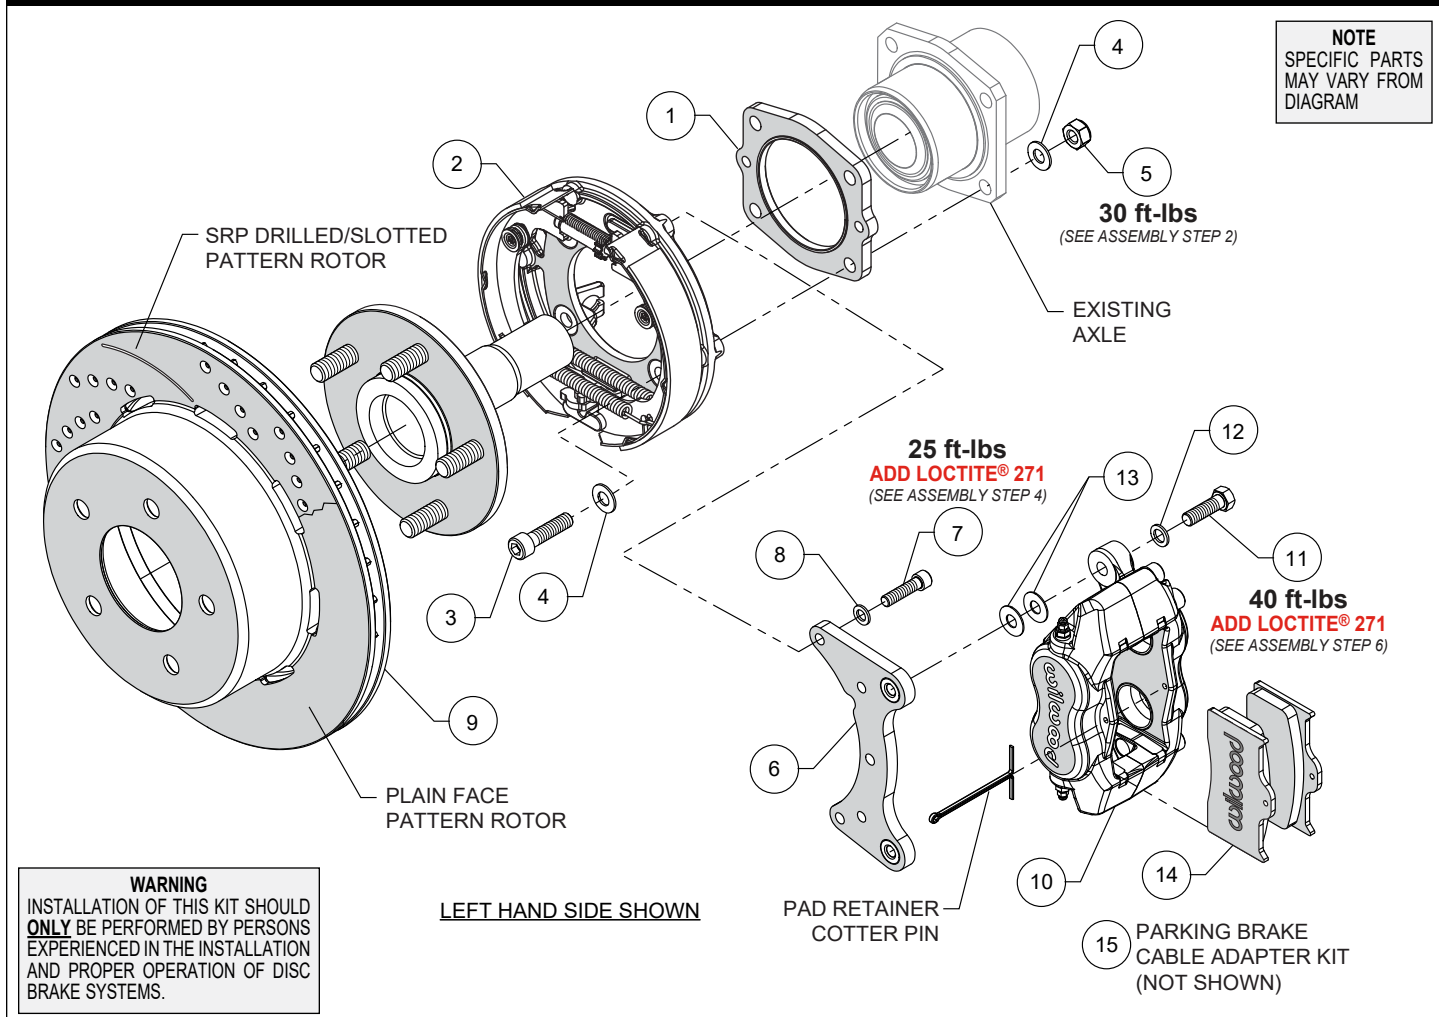
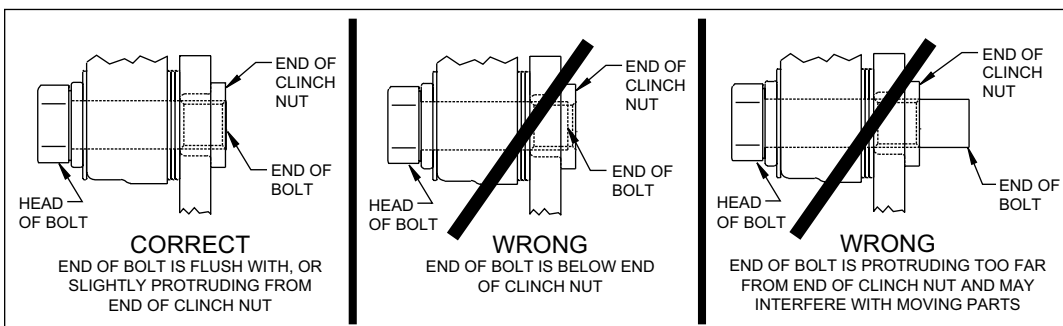

Figure 1. Typical Installation Configuration
Figure 4. Clinch Nut Engagement Diagram
NOTE: Numbers in parenthesis refer to the parts list and Figure 1 on the preceding pages.
CAUTION: All mounting bolts must fully engage clinch nuts. Be sure to check that all bolts are either flush or protruding through flanged side of clinch nut after shimming, Figure 4.
STEP 1 Slide the parking brake assembly spacer (1) onto the axle housing as shown in Photo 1 and Figure 1. **NOTE:** Ensure the spacer fits flush against the axle flange.
STEP 2 Orient the parking brake assembly (2), as shown in Figure 1. **NOTE:** The brake shoe adjuster star wheel should be at the top of the assembly when mounted (see arrow, Photo 2). Mount assembly (2) to axle housing flange using bolts (3), washers (4), and locking nuts (5), Photo 2 and Figure 1. Ensure that the backing plate of the parking brake assembly (2) fits flush against the spacer (1). Torque lock nuts (5) to value shown in Figure 1.
STEP 4 Install the caliper mounting bracket (6) to the parking brake assembly (2) using bolts (7) and washers (8) as shown in Figure 1 and Photos 3 and 4. **NOTE:** Be sure the heads of the caliper bracket clinch nuts (6) are facing outward toward the wheel. Apply red *Loctite*® 271 to the bolt threads (7) and torque to value shown in Figure 1.
STEP 5 Slide the rotor (9) onto the axle flange. **NOTE:** The rotor/hat must fit flush against the axle flange or excessive rotor run out may result. Install three lug nuts (finger tight) to keep the rotor/hat assembly in place while continuing with the installation, Photo 5.
STEP 6 NOTE: Please reference the caution statement at the beginning of the assembly instructions. Mount the caliper (10) onto the caliper mounting bracket (6) using bolts (11) and washers (12), as shown in Figure 1. Initially place two .035" thick shims (13) on each bolt between the caliper and the bracket, Photo 6. Temporarily tighten the mounting bolts and view the rotor (9) through the top opening of the caliper. The rotor should be centered in the caliper, Photo 7. If not, adjust by adding or subtracting shims between the bracket and the caliper. Always use the same amount of shims on each of the two mounting bolts. **NOTE:** The end of each bolt must be flush with or slightly protruding from the head
of the clinch nut, as shown in Figure 4. If necessary place spare shims between washer (12) and caliper mounting ear to achieve the proper clinch nut engagement. Once the caliper alignment and clinch nut engagement are correct, remove the bolts (11) one at a time, apply red *Loctite*® 271 to bolt threads, and torque to value shown in Figure 1.
STEP 7 Install the disc brake pads (14) into the caliper, with the friction material facing the rotor (9), Photo 8. Secure in place using pad retainer cotter pin, Figure 1 and Photo 9.
STEP 9 Install three lug nuts to hold the rotor/hat (9) securely in place, remove the rubber grommet in the backing plate (2) and adjust the parking brake shoes outward (using a drum shoe adjustment tool available at your local auto parts store) while spinning the rotor/hat (9) until a slight drag is felt against the hat/drum. Replace the rubber grommet when finished.